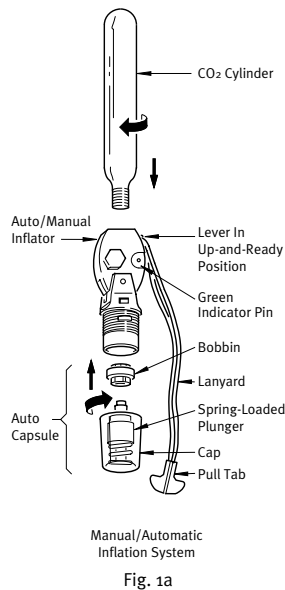
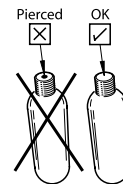
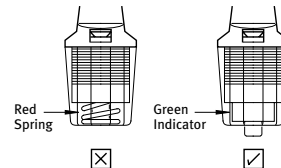
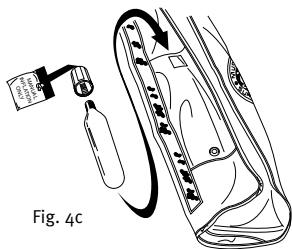

Fig. 1a
Fig. 1c
Fig. 1d
Fig. 4c
After purchasing your AirForce®, make sure it has an unused 33 gram CO₂ cylinder attached to the inflator mechanism (Fig. 1a) and a spare CO₂ cylinder and yellow manual cap stowed in the accessory pocket (Fig. 4c).
- 2) Unscrew and remove the CO₂ gas cylinder from the inflator and inspect its small end. If it is pierced, replace it (Fig. 1c)! Examine the auto cap. Ensure that the cap is screwed hand tight onto the inflator. If a day-glow red spring has been exposed the auto capsule mechanism has been fired or is incorrectly screwed on (Fig. 1d). If required, replace the bobbin before proceeding (Fig. 1a). **If either of these conditions exist, the auto cap must be re-screwed or the bobbin replaced!**
- 3) Make sure the manual lever is in the up-and-ready position and insert the green indicator pin if not already in place. Make sure the CO₂ cylinder is screwed hand tight into the inflator (Fig. 1a).
- 5) Inspect the accessory pocket found under the wearer's left lobe of the bladder. Ensure that there is one unused CO₂ cylinder and a yellow manual cap (Fig. 4c). Reposition the inflator's protective cover and refasten the chest flap. If everything checks out according to the preceding instructions, your AirForce® PFD is ready for use.
Inflation will occur automatically within seconds after the inflator is immersed in water. The water sensing bobbin will disintegrate, triggering a spring-loaded plunger which punctures the CO₂ cylinder to inflate the cell (Fig. 1d).
- 1) Unscrew and inspect the CO₂ cylinder. If used or damaged, discard the CO₂ cylinder (Fig. 1c).
- 3) Unscrew and remove the auto cap (see step 5 for storage) (Fig. 1a).
- 5) Remove the yellow Manual Cap and spare CO₂ cylinder from the pocket located under the left cover of the inflatable cell. Place the auto cap in the pocket for future use.(Fig. 4c).
- 4) Unscrew the Auto Cap from pocket located under the left cover of the inflatable cell. Stow the Manual Cap (with hang-tag along with an unused CO₂ cylinder in the pocket and skip to step 7. (Fig. 4c).
- 5) Unscrew and remove the Auto Cap (Fig. 1a).
- 8) Install the Auto Cap on the base of the inflator and hand-tighten. If the day-glow red spring (indicator) is exposed the bobbin has been fired or damaged, or the Auto Cap is incorrectly threaded (correct before going to step 9) (Fig. 1d).